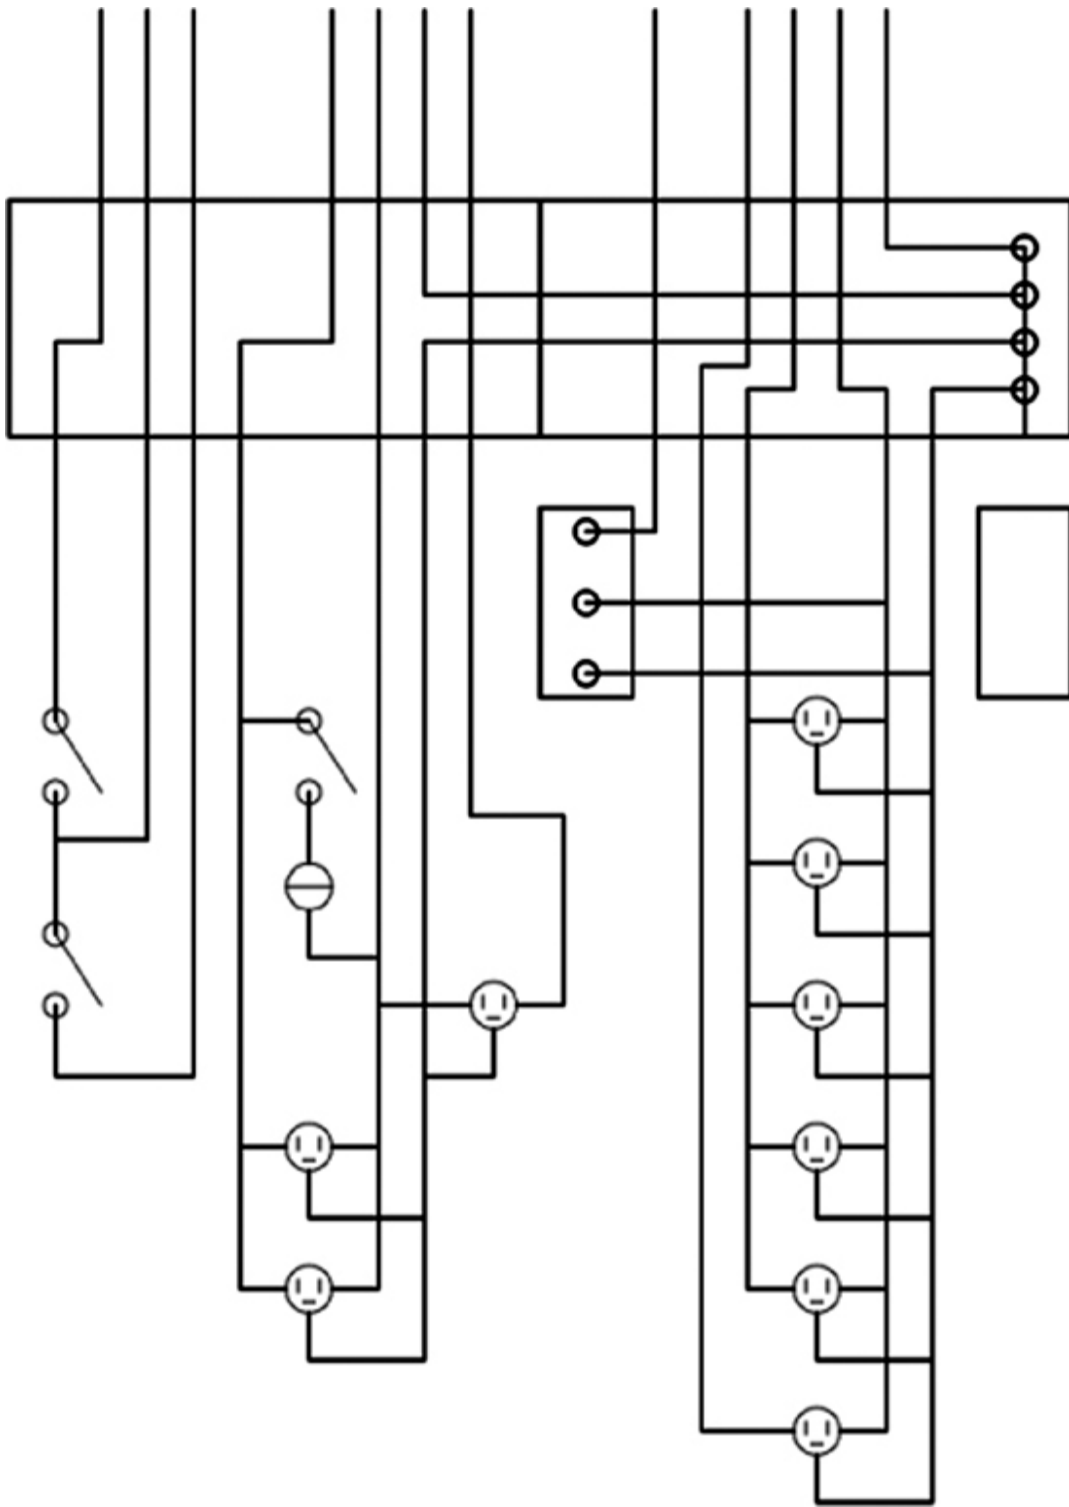

Figure 5-73
3. Draw the electrical schematic shown in Figure 5-73.